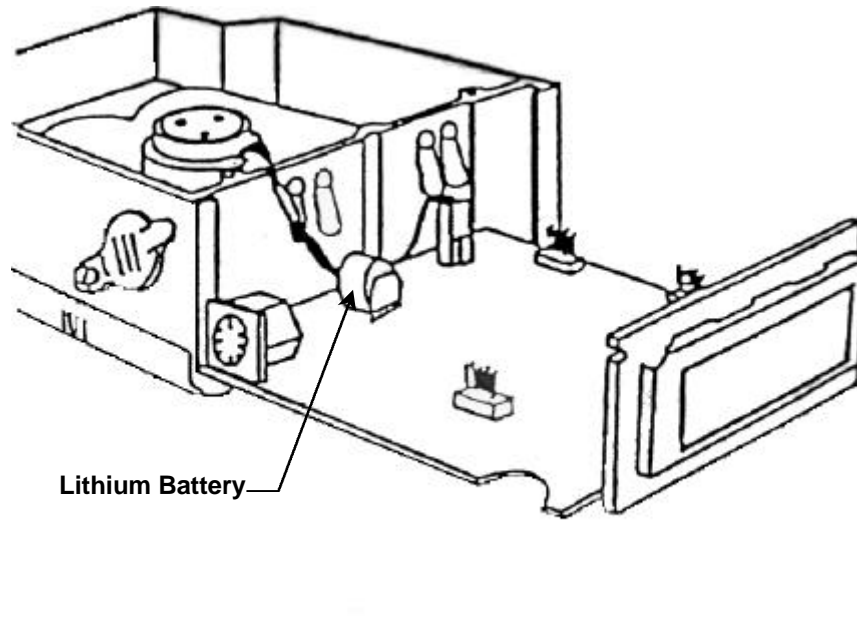

Figure 3-15: Location of Lithium Battery
Turn the instrument ON, and insert the programming plug into the DIN connector located on the side of the unit. See Figure 3-15.
- Carefully remove the circuit board vertically. The lithium battery can now be seen. See Figure 3-15